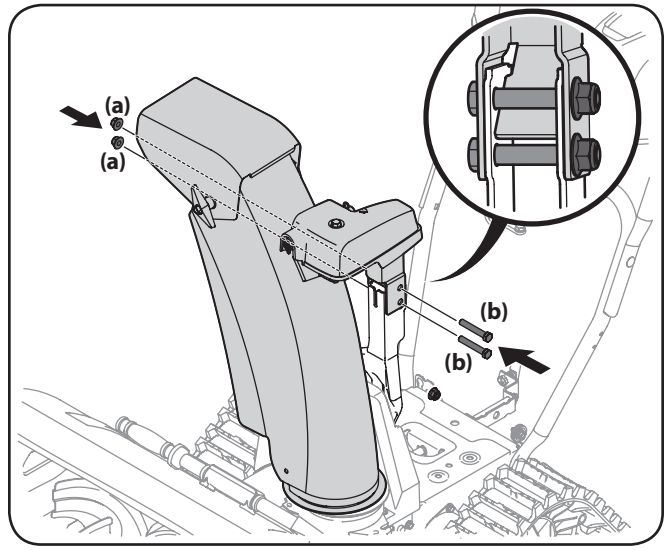

Figure 3-6
3. Secure chute control head to chute support bracket with the lock nuts (a) and hex screws (b) removed in Step 1. See Figure 3-6.